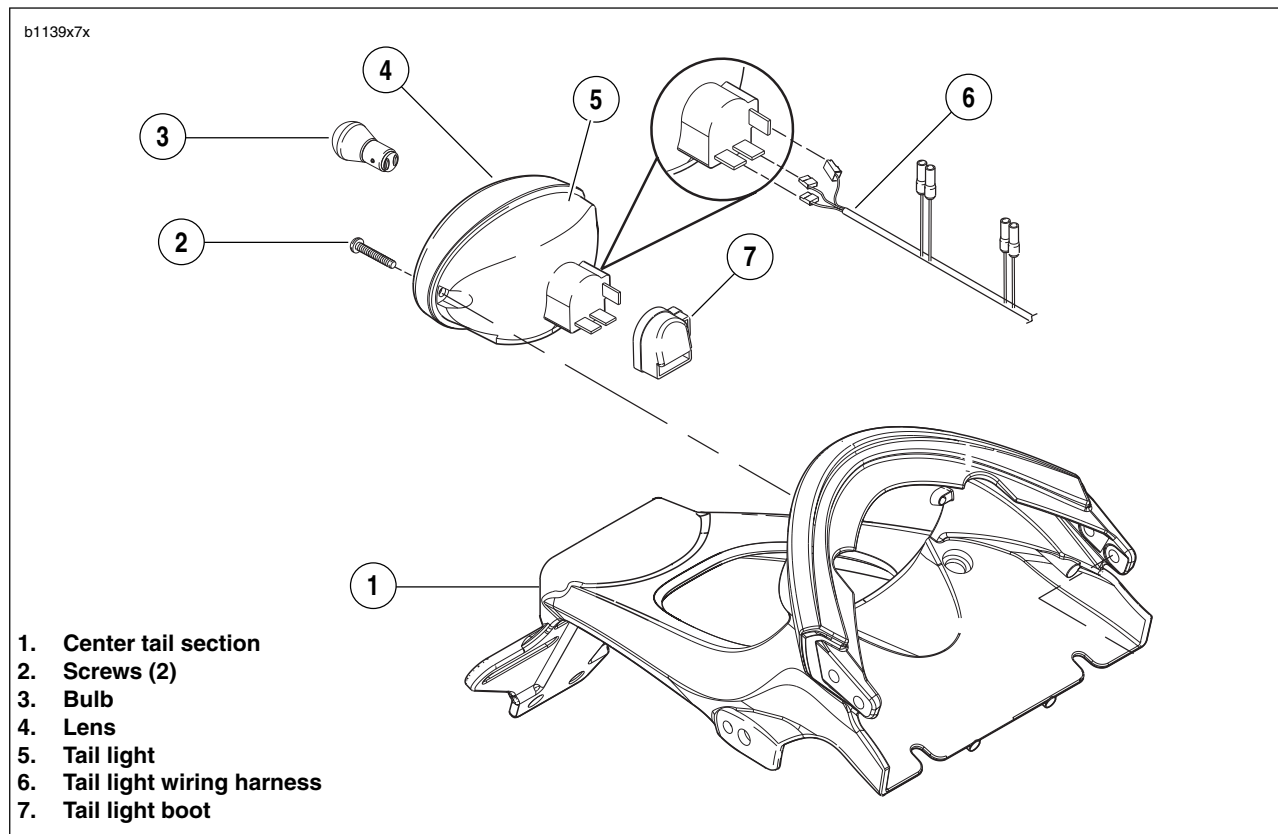

Figure 7-49. Tail Lamp Assembly
1. See Figure 7-49. Remove two screws (2) to detach tail light lens (4) and tail light (5). If replacing bulb (3), turn counterclockwise and remove.
3. Disconnect three connectors [93] from tail lamp harness (6).
1. See Figure 7-49. Attach the three tail light harness connectors [93] (7).
2. If removed, install tail lamp bulb (3).
- b. Install tail light lens (4) and tail light (5) with two fasteners (2).